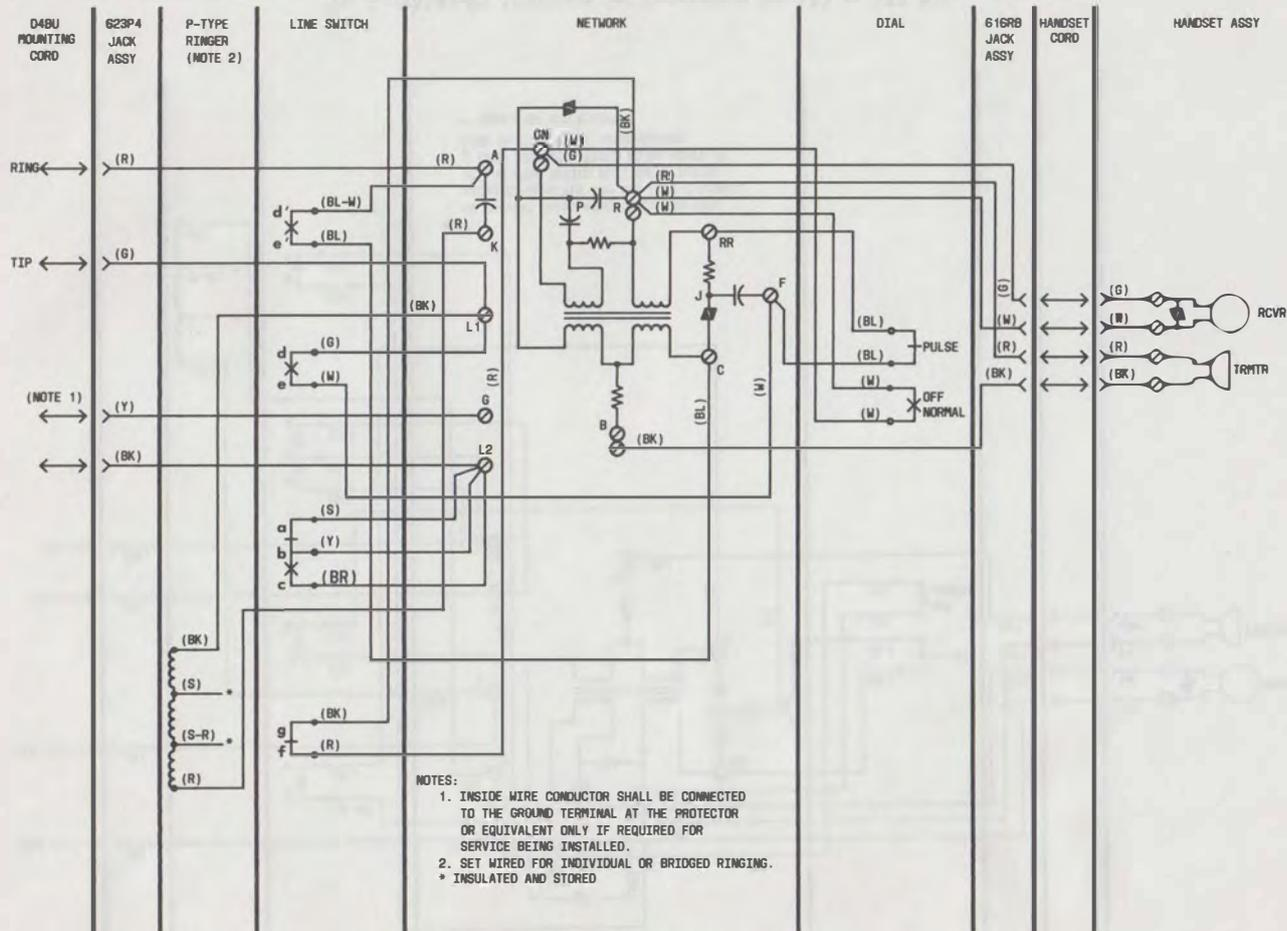

Fig. 4—951A 1-03 Telephone Set, Connections
- (1) Refer to Table A for party line connections.
- (2) For adjustments and ringer cut off feature of the P-type ringer, refer to Section 501-259-101.
**3.06** Connections for 1A KTS require no telephone set modifications and are wired the same as Fig. 4.